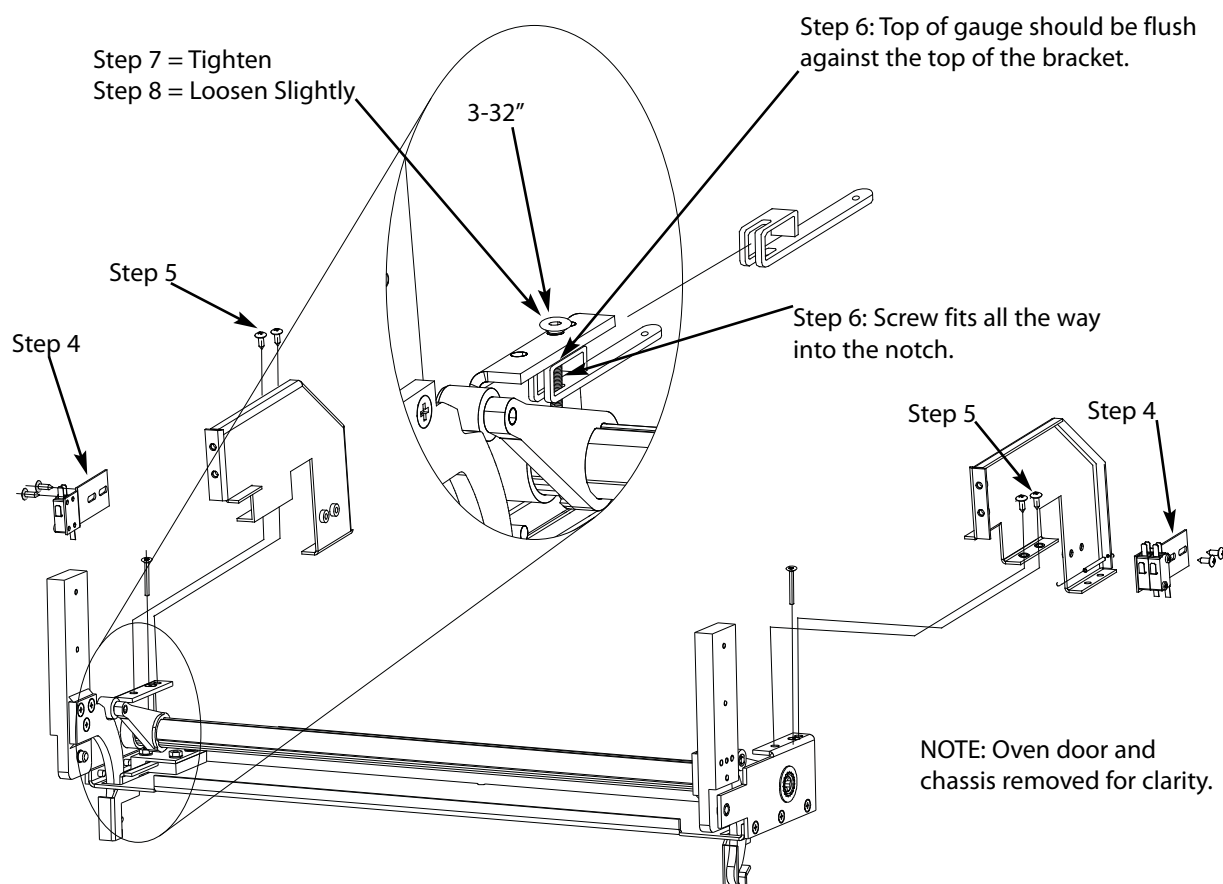

Figure 32: Counter-Balance Adjustment
**NOTE:** In Figure 32, some oven components have been removed for clarity. The adjustment procedure must be performed with the counter-balance and hinges installed to the oven chassis.
6. Use adjustment tool P/N i5-9387 to check the distance between the bracket and counter-balance assembly (see Figure 32).